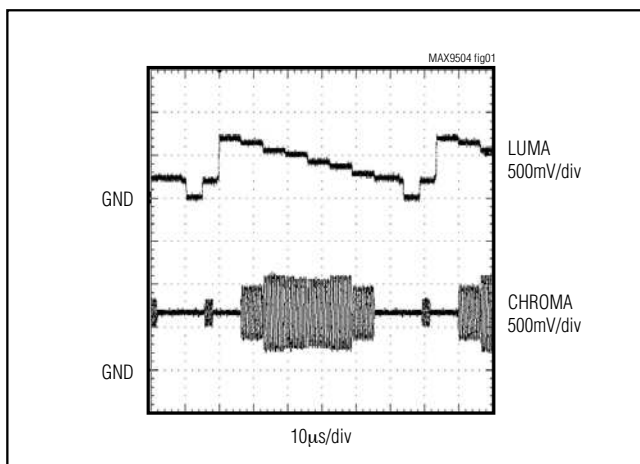

Figure 1. Oscilloscope Trace of Luma and Chroma Signals from Video Current DAC
Video current DACs source current into a resistor connected to ground. The output voltage range for composite video and luma (Y) is usually from ground up to 1V (see Figure 1). Notice that the sync tip is quite close to ground. Standard single-supply amplifiers with rail-to-rail outputs have difficulty amplifying input signals at or near ground because their output stages enter a nonlinear mode of operation when the output is pulled close to ground.
At the output of a video current DAC, the blank level of the chroma signal is usually between 500mV to 650mV. The voltage swing above and below the blank level is approximately  $\pm 350\text{mV}$  (see Figure 1). If the blank level is 550mV, then the lowest voltage for the chroma signal is 200mV. For the case of chroma signals, no input level shift is needed because 200mV gained up by two is 400mV, which is well within the linear output range of the MAX9504A or MAX9504B. Since the MAX9504A does not have an input level shift, the MAX9504A should be used with chroma signals. In summary, use the MAX9504B with composite video and luma signals from a DAC, and use the MAX9504A with chroma signals from a DAC.